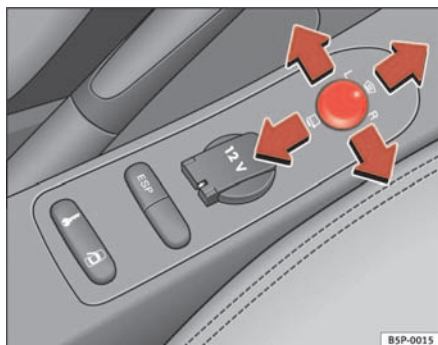

Fig. 89 Exterior mirror control
1. Turn knob ⇒ **fig. 89** to position **L (left exterior mirror)**.
- Turn the knob forwards to the central position ⇒ **fig. 89 1** so that the heated rear view mirrors warm up and the heated windscreen* in the wiper blade rest area is activated ⇒ page 121.
- Turn the control ⇒ **fig. 89** to position  to fold in the exterior mirrors. You should always fold in the exterior mirrors if you are driving through an automatic car wash. This will help prevent damage.